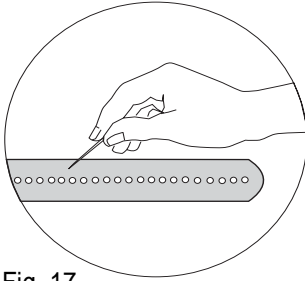
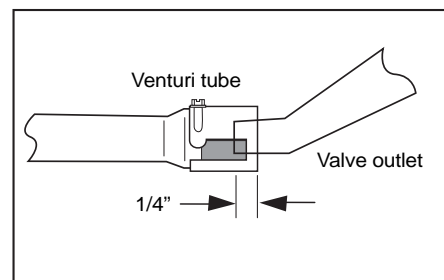

Fig. 17
Fig. 21
- Reinstall the burners properly over the valves (see Fig. 21). Use a wire brush or toothpick to clean the ports all around the sides of the burner (see Fig. 17). It is normal for some surface rust to appear on the burner. Severe rusting can enlarge the gas ports, however, which could cause changes in the Grill's performance.
Use a wire brush to clean all ports on the sides of the burner (see Fig. 17).
If burners are removed for cleaning or adjustment, always confirm that they have been reinstalled correctly over the valve outlets (see Fig. 21). The valves should extend into the burner venturis  $\frac{1}{4}$ " minimum.